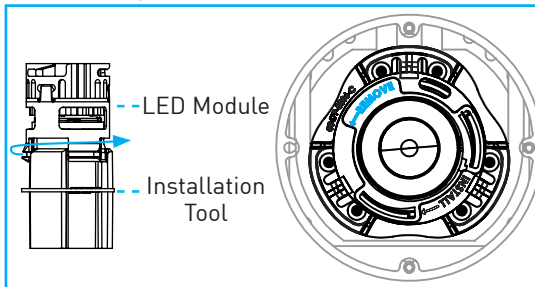

Fig.22
**3. Integral Based:** Attach LED installation tool by first inserting and twisting clockwise to engage tool with LED module, then counter clockwise to **REMOVE** module from housing. Carefully pull down to completely remove LED module. *(Fig.22)*